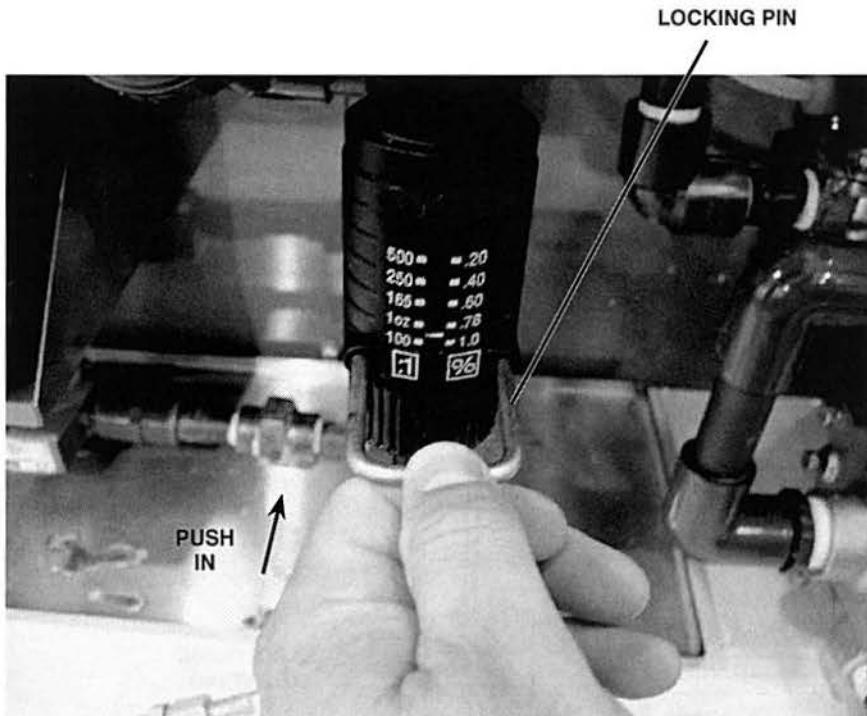

Figure 40. Inserting the Locking Pin
- C. When the dial is set to the desired ratio (100:1), replace the locking pin by pushing it into the holes beneath the ratio control dial, as shown in figure 40.